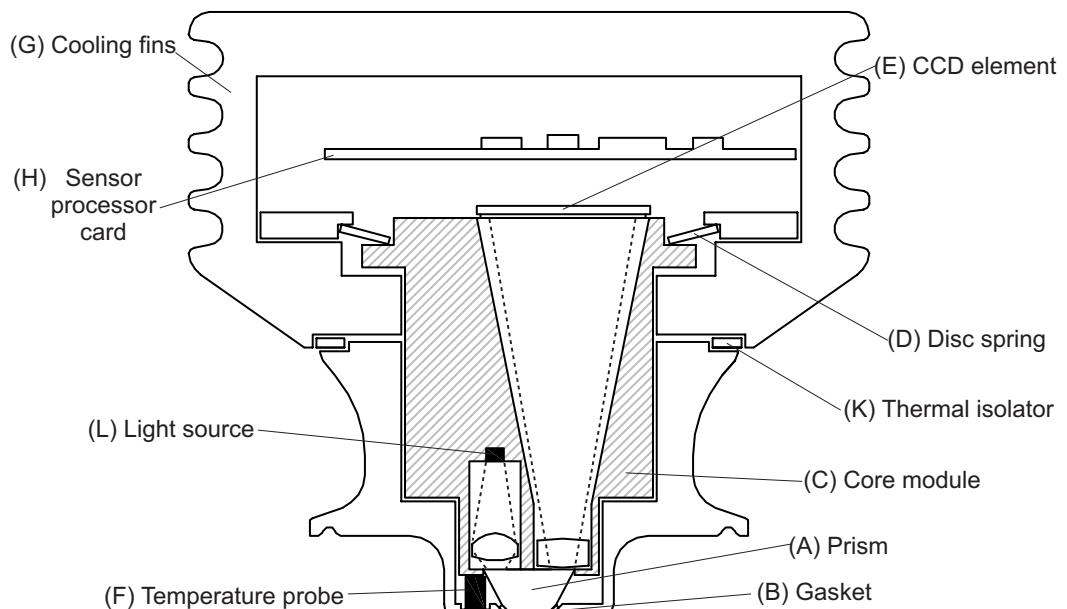

Figure 2.1 PR-23 sensor structure
Figure 2.1 below shows a cutaway picture of a PR-23 inline refractometer sensor. The measurement prism (A) is flush mounted to the surface of the probe tip. The prism (A) and all the other optical components are fixed to the solid core module (C), which is springloaded (D) against the prism gasket (B). The light source (L) is a yellow Light Emitting Diode (LED), and the receiver is a CCD element (E). The electronics is protected against process heat by a thermal isolator (K) and cooling fins (G). The sensor processor card (H) receives the raw data from the CCD element (E) and the Pt-1000 process temperature probe (F), then calculates the refractive index n_D and the process temperature T. This information is transmitted to the Indicating transmitter.